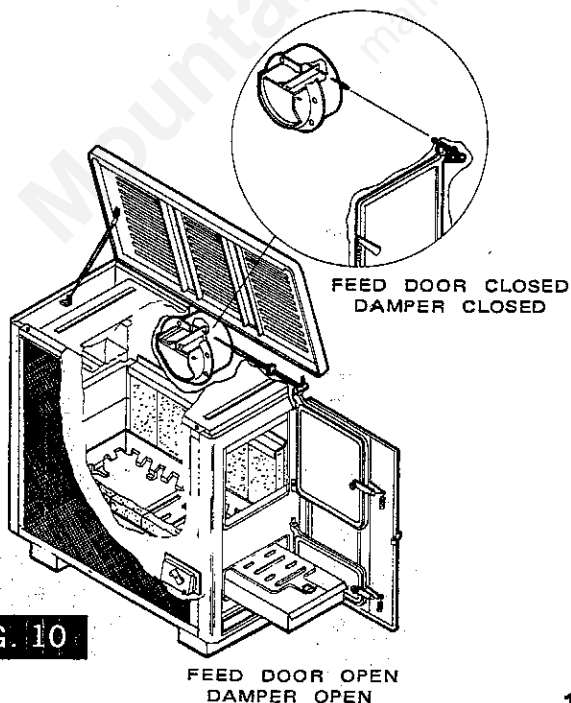

FIG. 10
THIS HEATER IS DESIGNED WITH A FLUE COLLAR DAMPER WHICH OPERATES AUTOMATICALLY WHEN THE FEED DOOR IS OPENED AND CLOSED. IF THE UNIT SMOKES WHEN THE FEED DOOR IS OPEN, CHECK THE FLUE COLLAR DAMPER TO SEE THAT IT IS OPEN ALSO. FAILURE OF THE DAMPER TO OPERATE PROPERLY MAY CAUSE SMOKE AND FLAME TO ESCAPE THROUGH THE FEED DOOR IN THE OPEN POSITION. (FIG. 10).
1. The connector pipe may be pushed into the chimney too far, stopping the draft (Fig. 10).